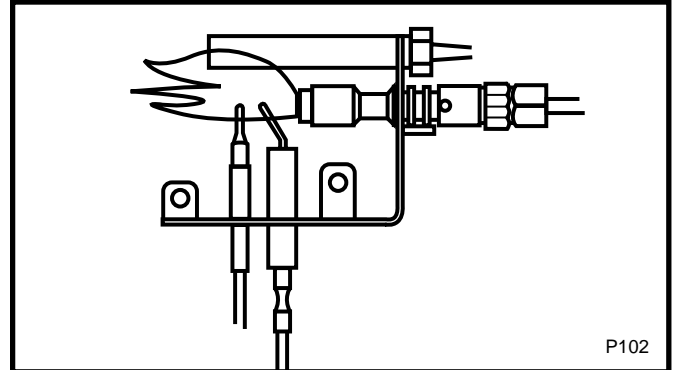

Fig. 11 Proper pilot flame height.
**It is important to periodically perform a visual check of the pilot and the burner flames. (Figures 11 and 13)**
Typically, the top 1/8" of the thermopile should be engulfed in the pilot flame. (Fig. 11)